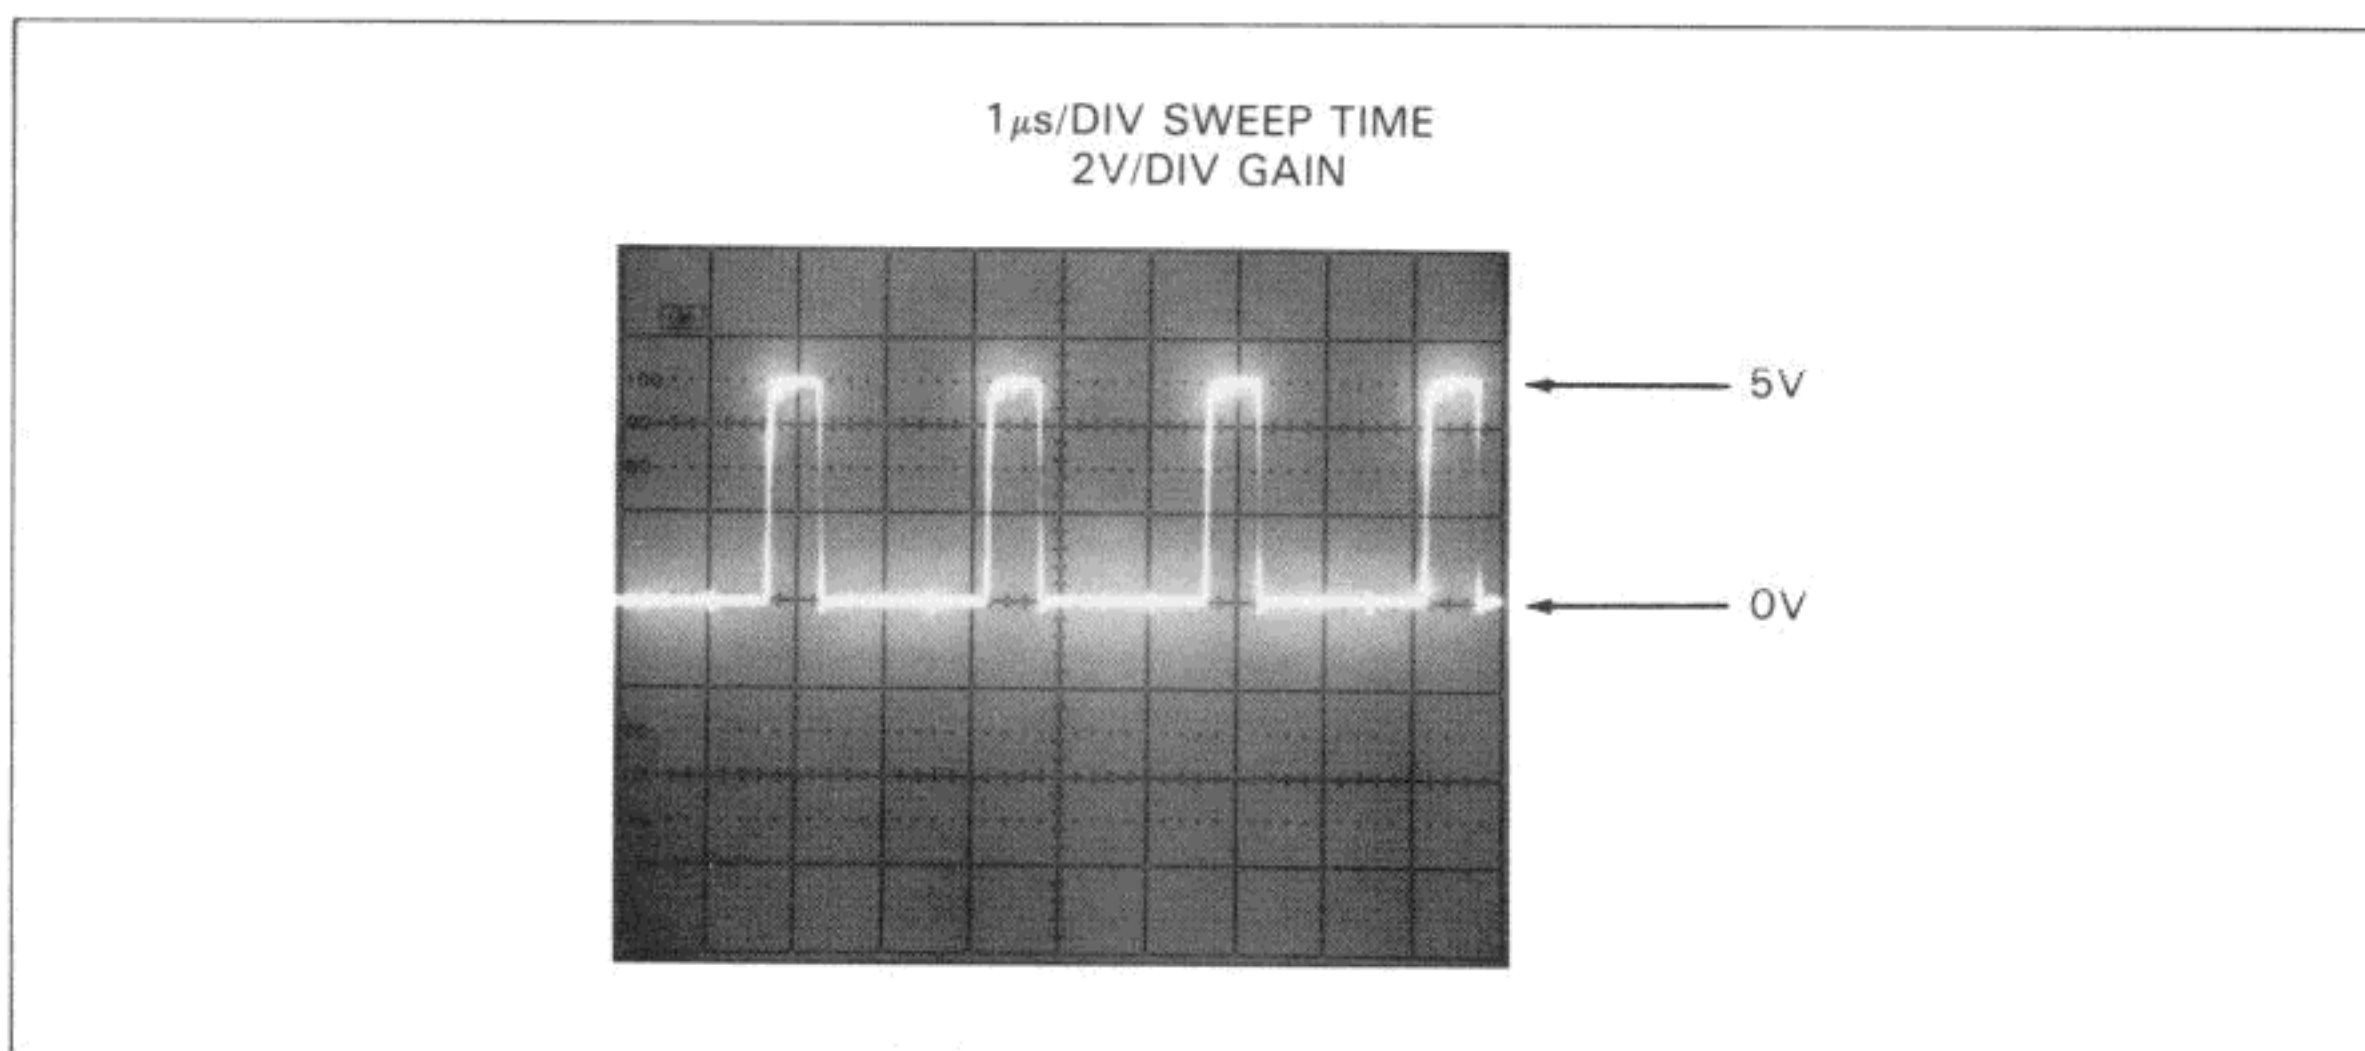

Figure 1-8-D-1. ALE at U508 Pin 11
c. Use an oscilloscope and check ALE at U508 pin 11 for the waveform shown in Figure 1-8-D-1. If ALE is incorrect or missing, refer to Service Group E for troubleshooting.